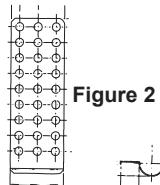

Figure 2
2. There are two types, figure 1, the single row or figure 2 which has three rows with a formed radius where the bulb sits.